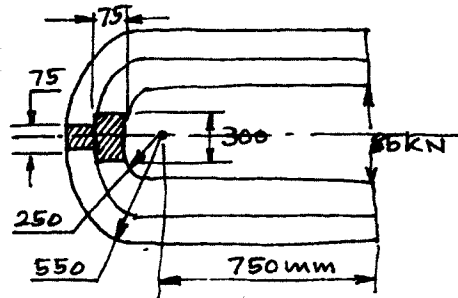

Fig.Q1(b)
b. Fig.Q1(b) shows a frame of a punching machine and its various dimensions. Determine the combined stress at the inner and outer fibres. Also find the maximum shear stress and its location. Take the force as 85 kN. (15 Marks)